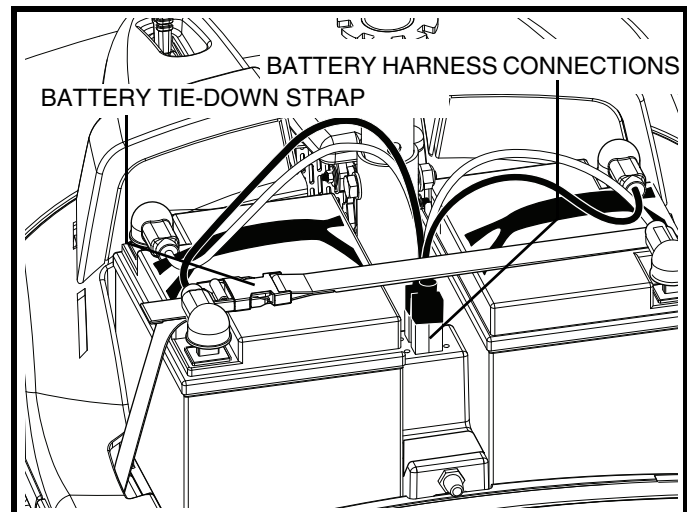

Figure 21. Harness Connections
4. Unplug both battery harnesses by pulling each harness straight up. See figure 21.
2. Connect both battery harnesses. See **figure 21**.